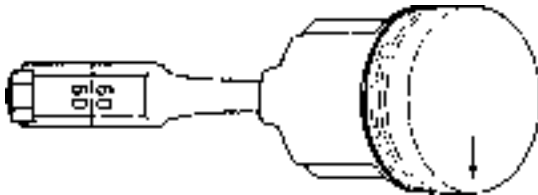

Fig. 49. Assembly of piston and connecting rod (MD2010, MD2020)
3. Heat up the piston to approx. 100°C (212°F). Place the piston and connecting rod so that the markings correspond with Fig. 49 or 50.
MD2010, MD2020: With the marking on the connecting rod's side upwards the arrow on the piston top should be turned in the same direction as per Fig. 49.